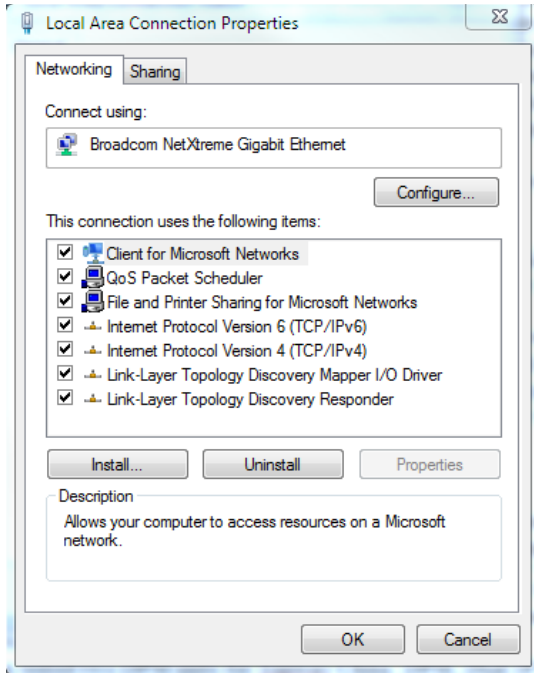

Fig. 2-38, Local Area Connection Properties Screen, Windows® 7
6. You will see a dialog box much like **Fig. 2-38**; click **Internet Protocol (TCP/IPv4)** and then click the **Properties** button.